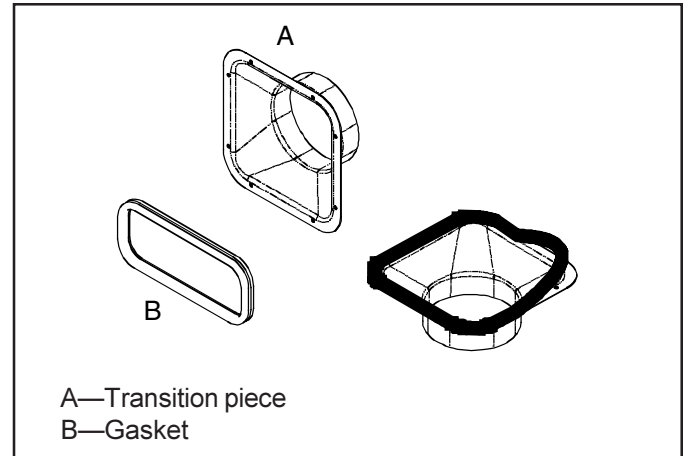

Figure 21
- See Figure 21. Attach rubber gasket around edge of transition piece.